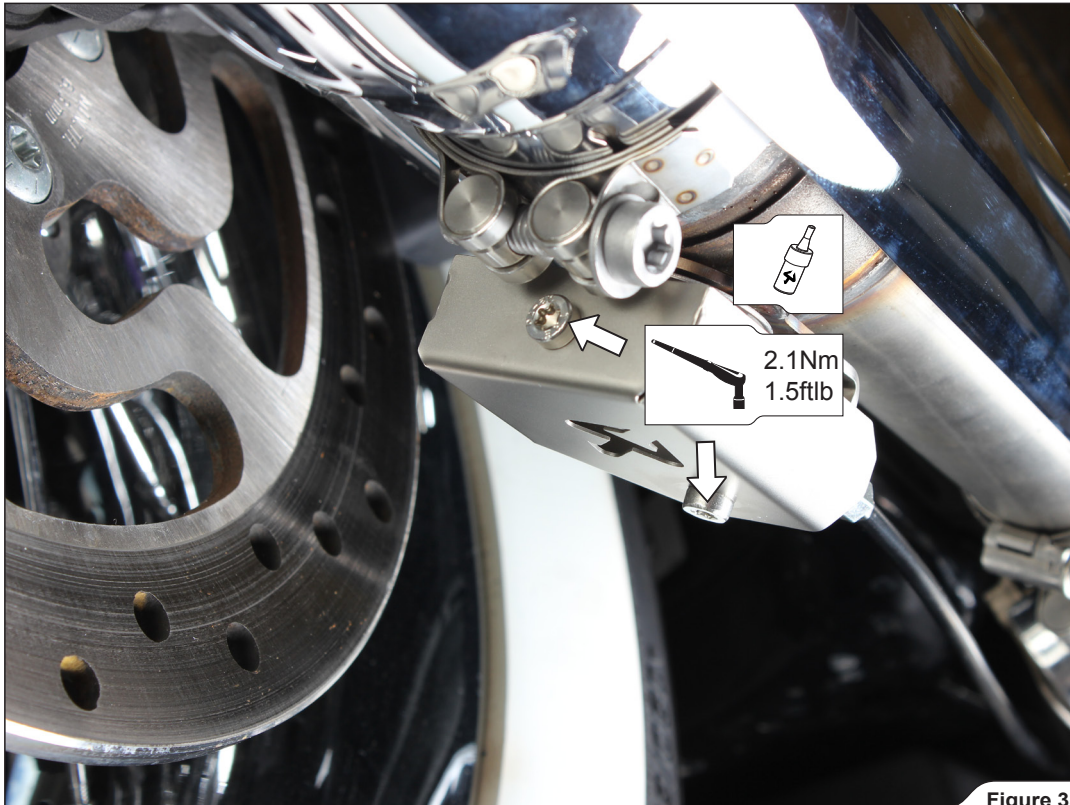

Figure 33
- Put the contact switch in ON position and check if both valves are closed. In case the valves are not completely closed, repeat the adjusting procedure of the cables (Step 11, Figure 30, 31, 32). Assemble the valve covers onto the both exhaust valves (Figure 33).